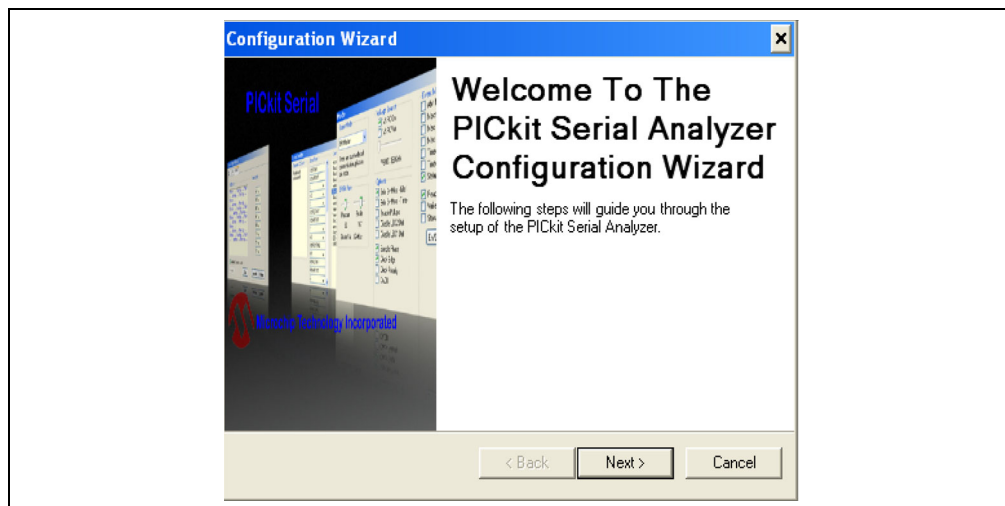

FIGURE 2-2: PICKit™ Serial Analyzer Configuration Wizard Welcome Window.
3. Run the PICKit™ Serial PC Software. Figure 2-2 displays the GUI. Click the **Next** button to configure the PICKit™ Serial Analyzer.